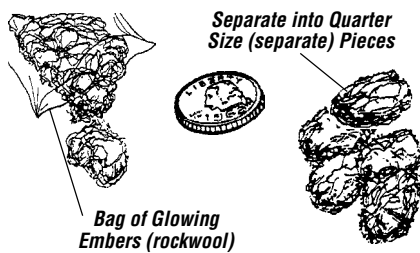

Figure 54
5. **Placement of Glowing Embers** - Separate the Embers (rockwool) into pieces about the size of a quarter (see **Figure 54**). Keep the pieces fluffed up, not matted. Distribute these pieces over the surface of the burner, as shown in **Figure 55**. Do not use more than is necessary. Ensure that the main burner ports remain uncovered by the ember material.